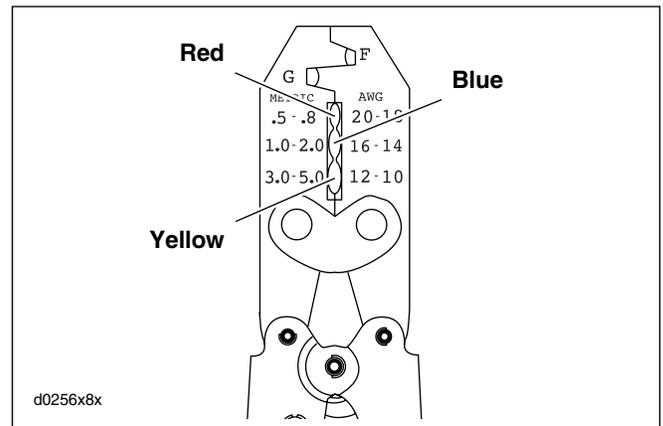

Figure 1-2. Packard Crimp Tool (Part No. HD-38125-8)
- See Figure 1-2. Since the size of the connectors varies with the gauge of the wire, always use the correct components when creating sealed splices.
- See Figure 1-2. Determine the correct dye or nest for the crimping operation. Match the color or gauge wire marked on the butt splice connector with the corresponding crimp cavity on the crimp tool.